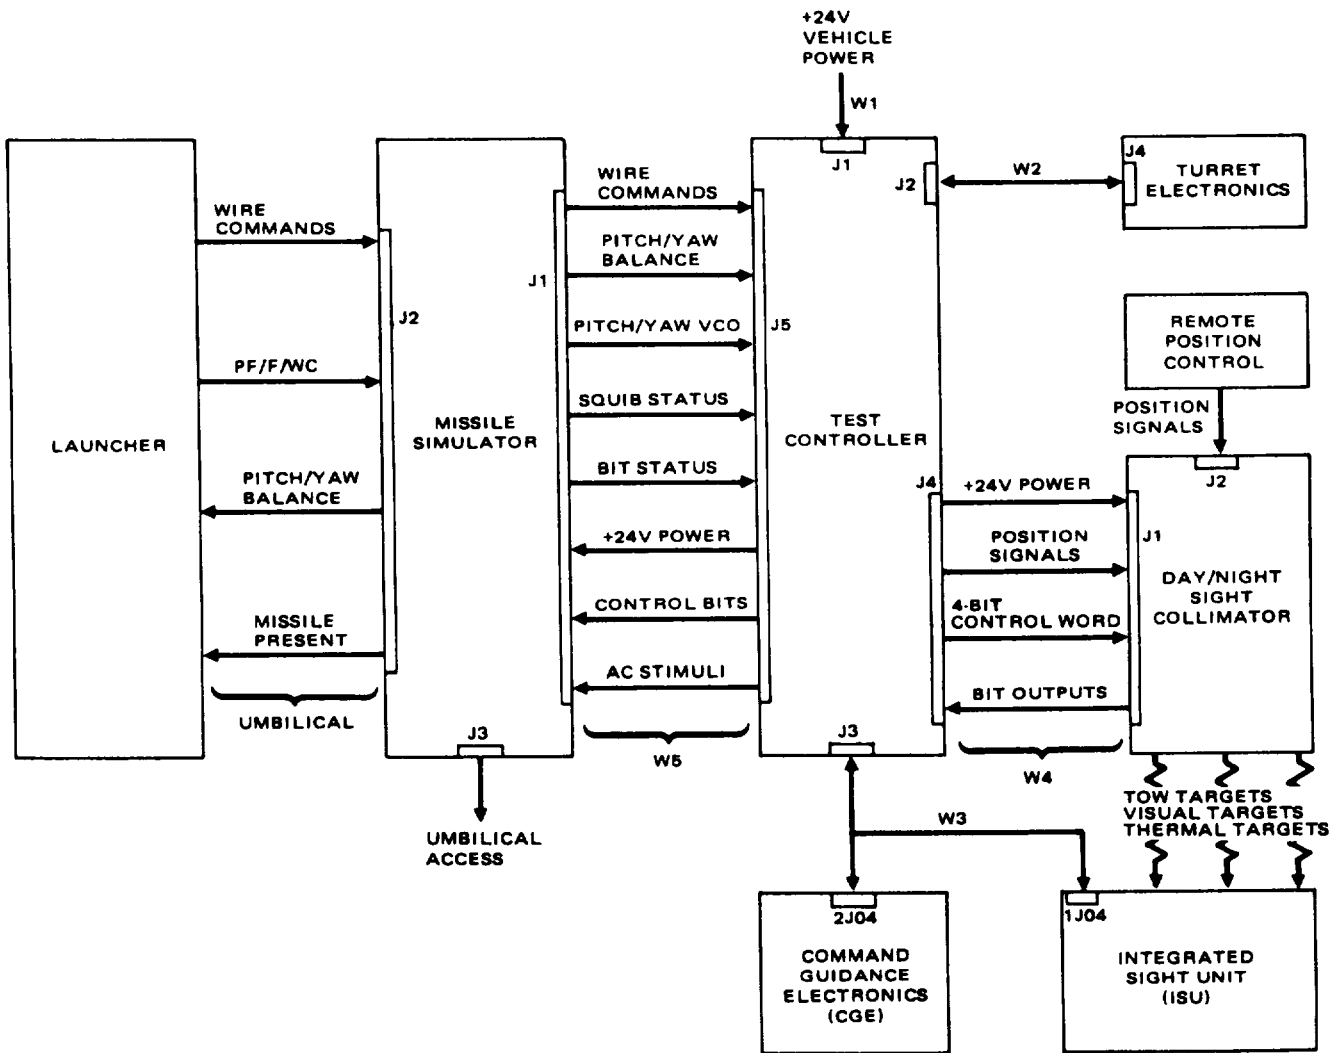

Figure 1-9. TOW Subsystem Test Set Block Diagram.
1-10. TOW Subsystem Test Set. The TSSTS, which includes the test controller (TC), missile simulator (MS), and day/night sight collimator (D/NSC), supplies electrical and optical stimuli to the turret and TSS units and performs testing of TSS output signals. The TSSTS subassemblies interface with the turret, the TSS units, and each other through five cables and the launcher umbilical as shown in figure 1-9. The operation of the TSSTS subassemblies is described in the following paragraphs.